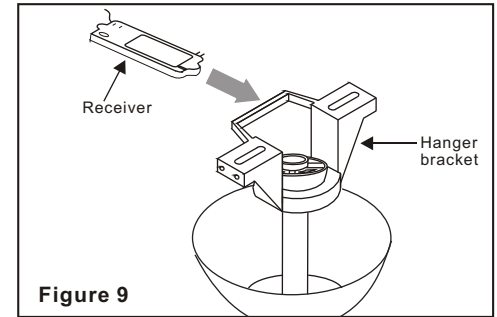

Figure 9
Step 1. (Figure 9) Insert the receiver into the mounting bracket with the flatside of the receiver facing the ceiling.